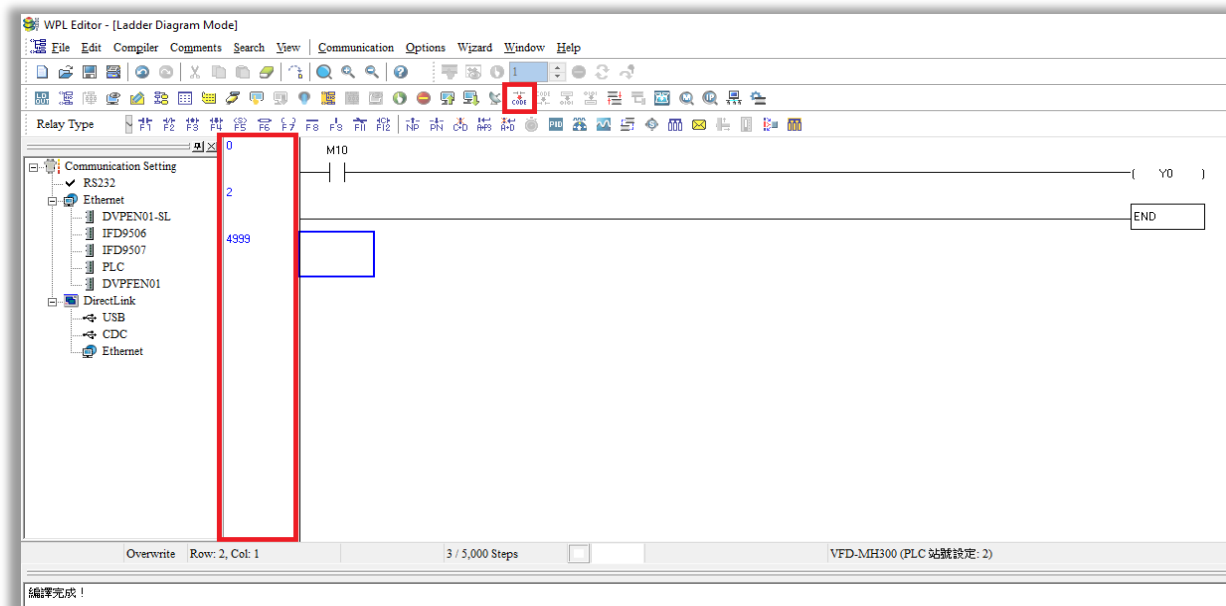

Figure 15-18
Step 5. Click  **Ladder Diagram=>Command** button to convert the edited ladder diagram to the commands. After compiling is finished, the number of rungs (steps) appear on the left side of the busbar, as Figure 15-18 shows.